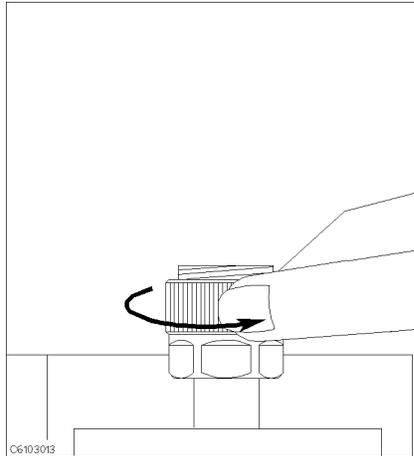

Figure 4-12.
1. Turn the APC-7® connector on the test head as shown in Figure 4-12.